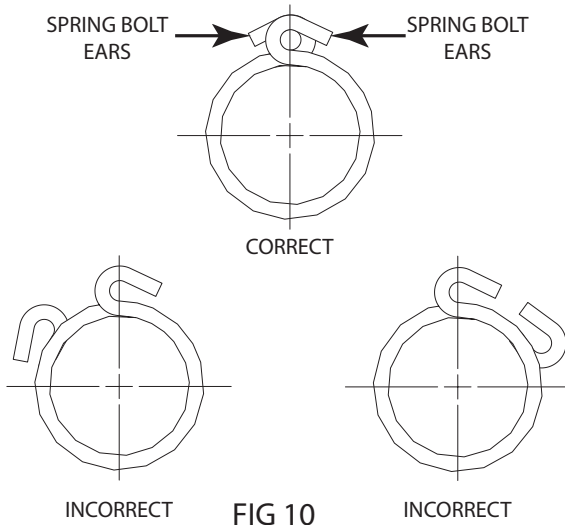

FIG 10
- Ensure that the spring bolt ears are aligned with each other to assure spring is in neutral position. See Figure 10.